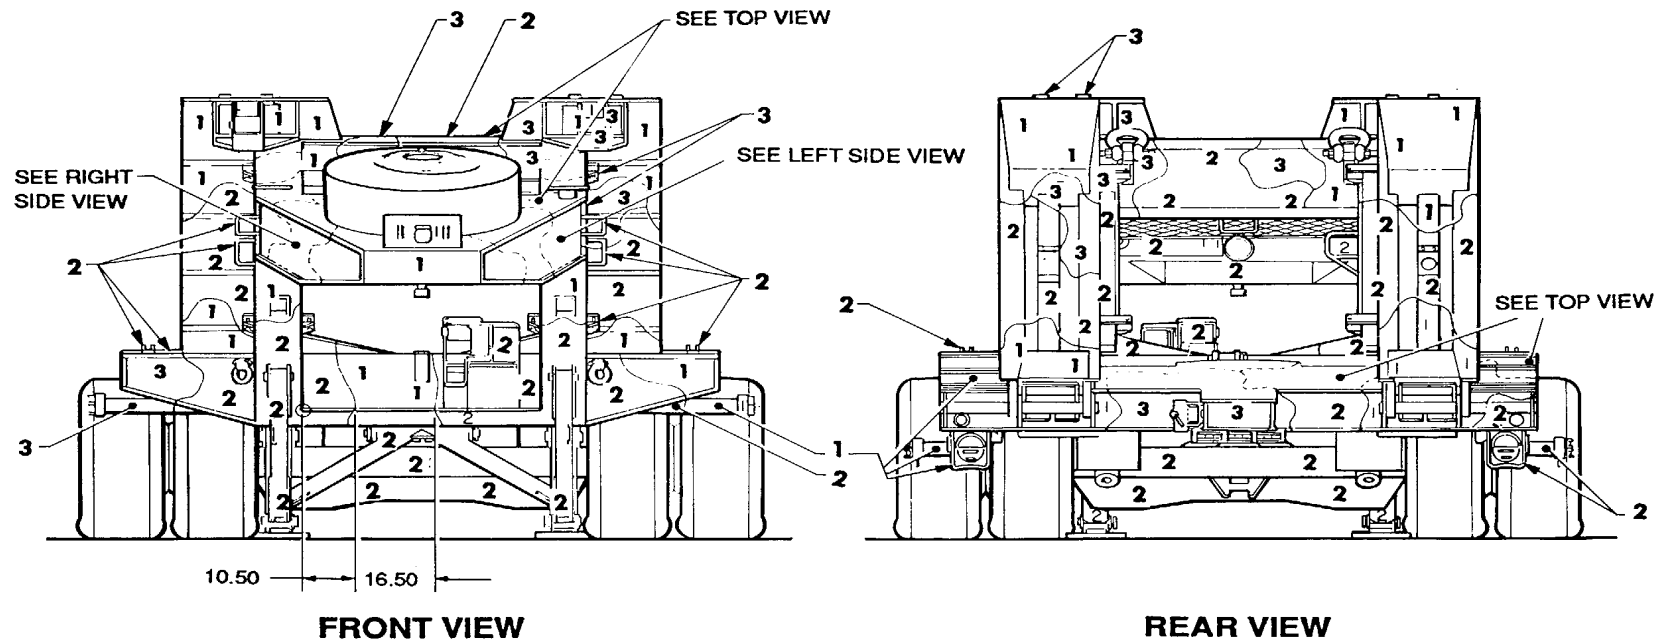

Figure 147. Semitrailer, low bed: heavy equipment transporter, 60-ton, M747. (2 of 2)
**TOP VIEW****M747****RIGHT SIDE VIEW***Figure 147. Semitrailer, low bed: heavy equipment transporter, 60-ton, M747. (1 of 2)*